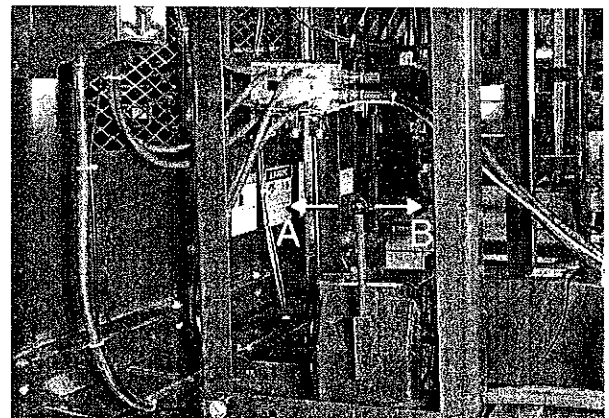

Figure 12. Two-Speed Transmission Shift.
**Two-Speed** - The two speed gearbox provides a lower speed for the initial cutting and mixing of whole bales, tough grass hays, and/or bulk commodities, and a higher speed for final cleanout. Before changing speeds, you must first shut off the tractor PTO. For low gear, push the lever toward the tub. For high gear, pull the lever away from the tub. Refer to Figure 12. Occasionally, you may have to rotate the PTO driveline to allow the straight cut gears to mesh. Remote two-speed shift controls also require that the tractor PTO to be shut off before shifting.
**Unloading the Mixer Tub** - When the mixer is nearly empty, two speed models can be shifted into high gear (see Figure 12). The higher speed results in faster unloading by throwing the ration mix off of the auger face. The single-speed model can be brought up to full rated PTO speed to achieve the same results.